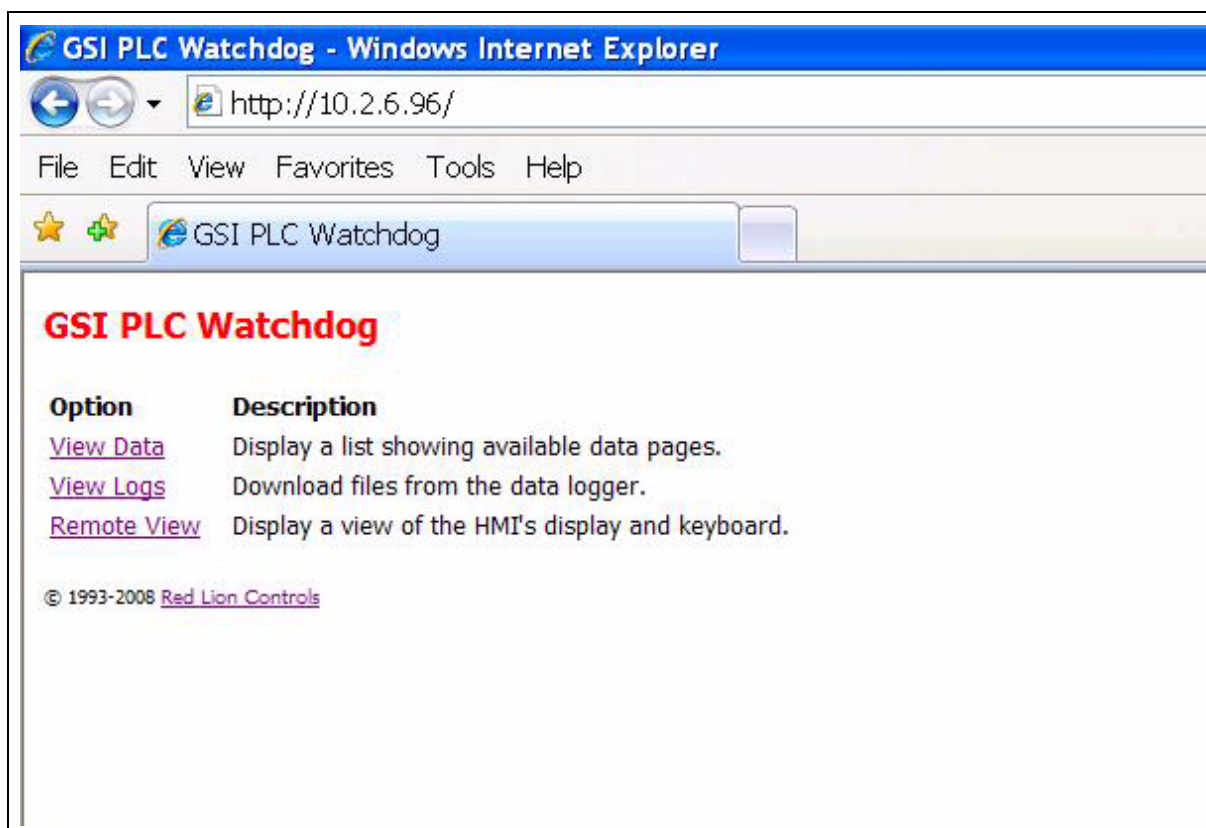

Figure 3B
3. In the URL bar, enter the IP address given by your network administrator. There is no need to put "www", simply enter the number sequence. The IP address shown in the *Figure 3B* is just for illustration purposes. The IP address you enter will be different.